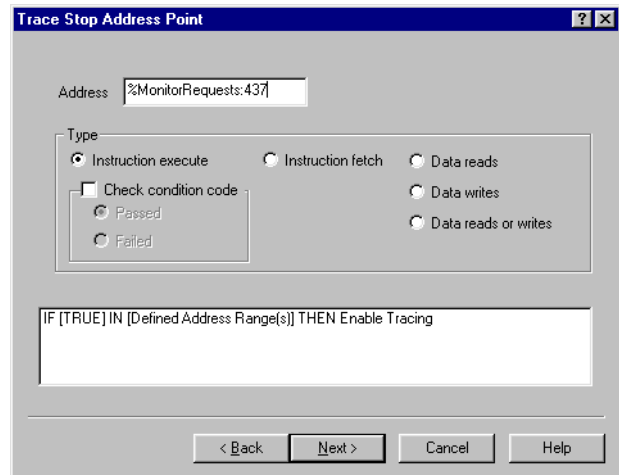

Figure 8-58 Trace Stop Address Point dialog box
12. Click on **Next>**. The Trace Stop Address Point dialog box shown in Figure 8-58 is displayed.